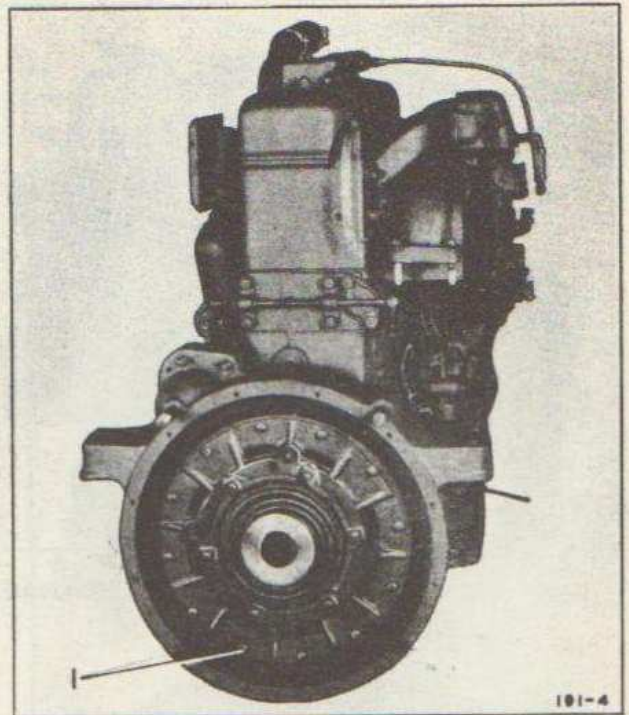

Fig. 29—View Identifying Clutch Cover Cap screws
#### Removing Clutch (See Figures 29 and 30)
Remove twelve clutch cover cap screws (1), see Figure 29.